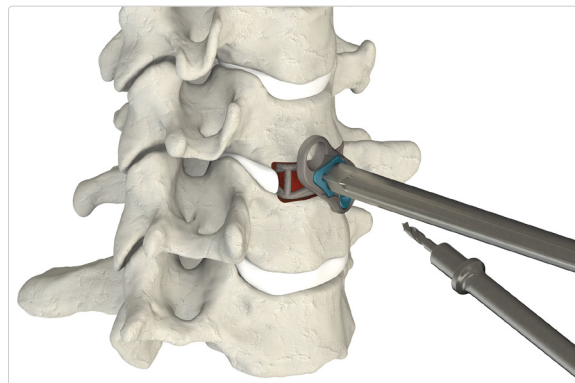

Figure 8
- **Drill:** Align the Straight Drill within the corresponding hole on the CSTS Integrated plates and prepare the screw entry hole (Fig. 8 & 9).